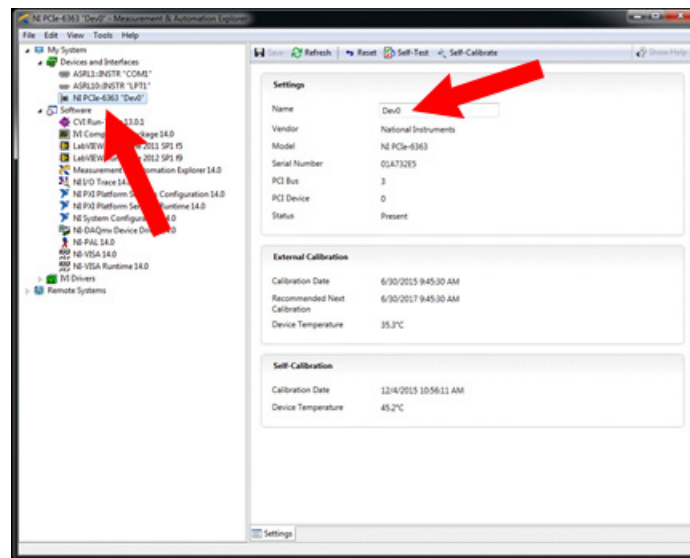

Figure 5-1: Device Name in NI MAX Software
2. A series of settings will appear on the right side of the application. Verify that the PCIe-6363 is named *Dev0*, highlighted (see: Figure 5-1).